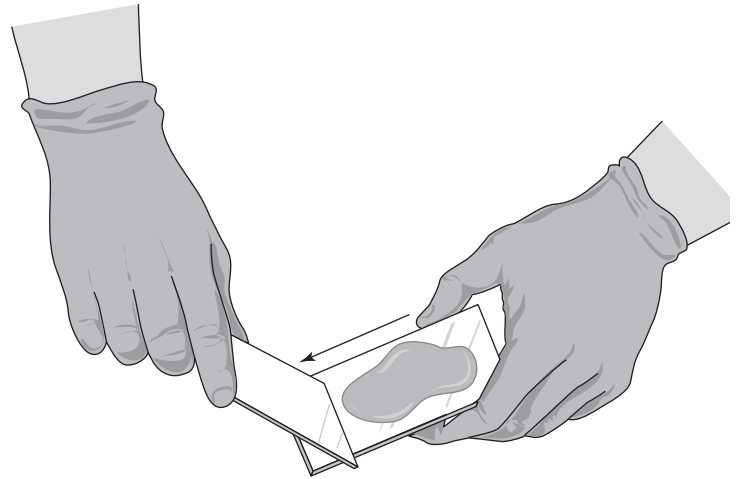

FIG. 6.1. Smear preparation for capsule stain.
4. Push (or pull) the second slide across the length of the first slide, which will spread the bacteria/India ink mixture evenly over the first slide (Fig. 6.1). *Discard the second slide in disinfectant.*